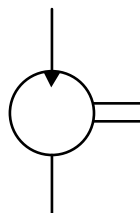

FIG 6.
E. The symbol for a hydraulic motor (fixed displacement) with one direction of flow is shown in Fig 6.